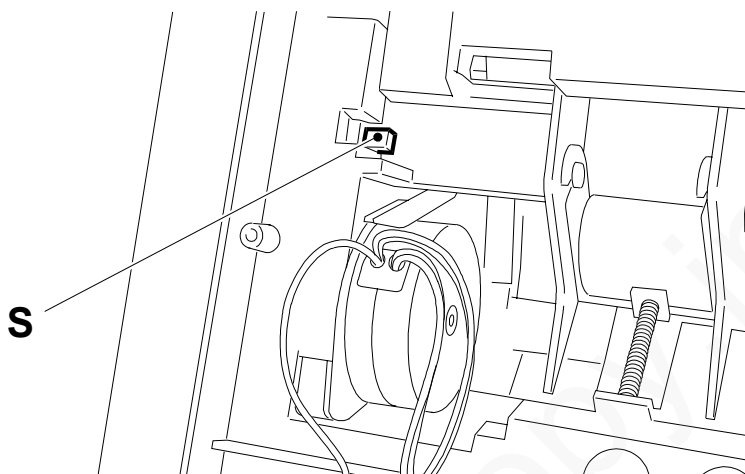

Fig. 7-48
- 5) Flip the fax machine over and release from the side the left support S of the roller shaft (Fig. 7-48):